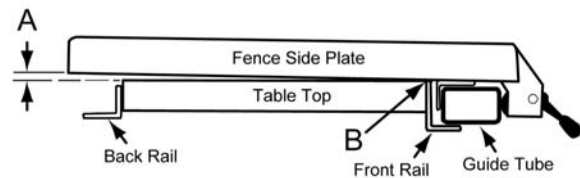

Figure 9
1. View the fence from left side of saw (Figure 9). Look for the space *between the table and the fence bottom* to be equal along entire length of fence (A, B, Figure 9).